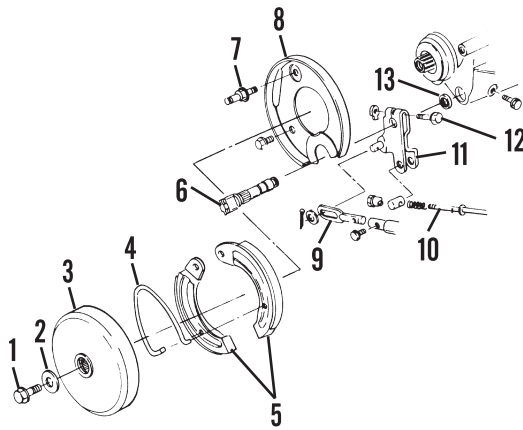

Fig. HN1-17—Exploded view of brake assembly.
To remove the brake shoes, remove the seat, rear fender and wire protector. Raise the tractor's right side so the transaxle oil will not flow out. Remove the screw (1—Fig. HN1-17), washer (2) and brake drum (3). Remove the brake spring (4) and shoes (5).